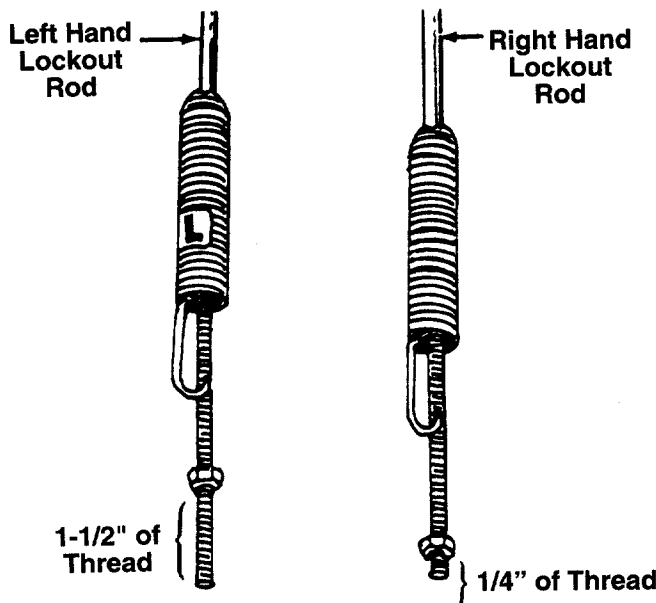

FIGURE 13.
**Approximate** initial settings for the lockout rods are as follows: The left hand lockout rod for the drive clutch should have approximately 1-1/2 inches of thread showing below the nut. The right hand lockout rod for the auger clutch should have approximately 1/4 inch of thread showing below the nut. See figure 13.